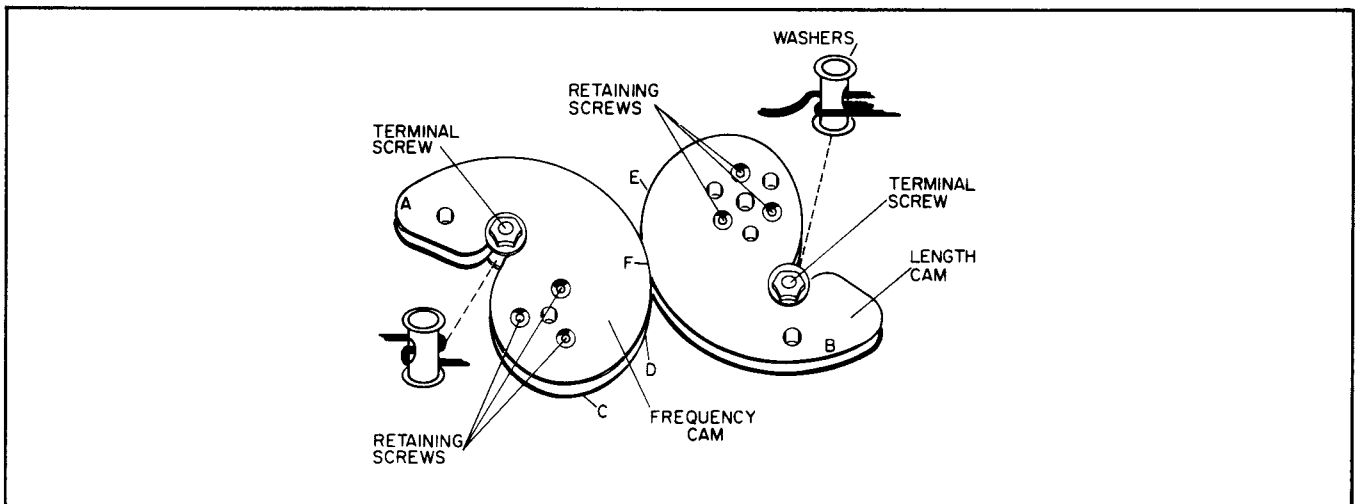

Figure 5-13. Exploded View — Cam Assembly
k. Slide cable through one terminal screw so that cable is secured to terminal screw as shown in Figure 5-13, for the Frequency Cam, and install terminal screws on Frequency Cam.
Each cam as shown in Figure 5-13 has two lips along which the cable should travel, one cable must travel along the upper lip of both cams and one cable must travel along the lower lip of both cams.
s. Slide cable ends through second terminal screw so that cable is secured to terminal screws as shown in Figure 5-13, for the Length Cam.